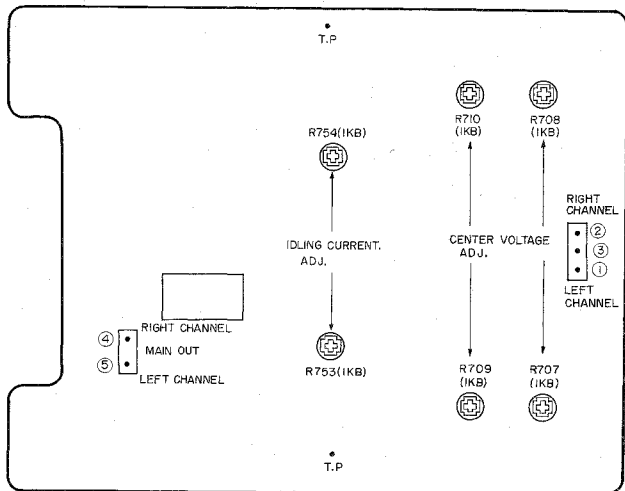

Fig. 9 Main Amp. P.C Board 4631450
1. CENTER VOLTAGE ADJUSTMENT (Refer to Figs. 9, 10)
2. IDLING CURRENT ADJUSTMENT (Refer to Figs. 9, 10)